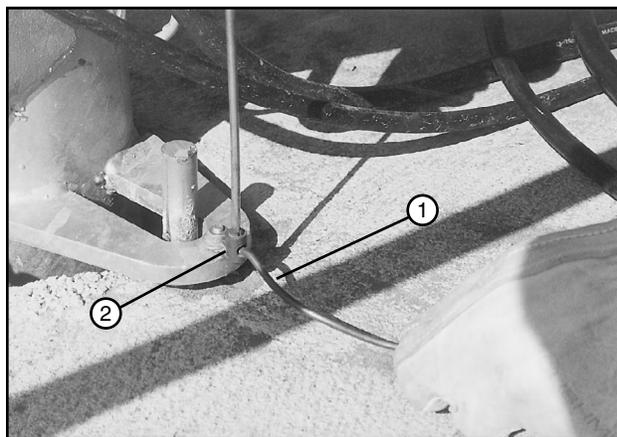

Figure 42-2 1. Ground Wire
24. Attach the ground wire to the ground lug on the riser. See Figure 42-2.